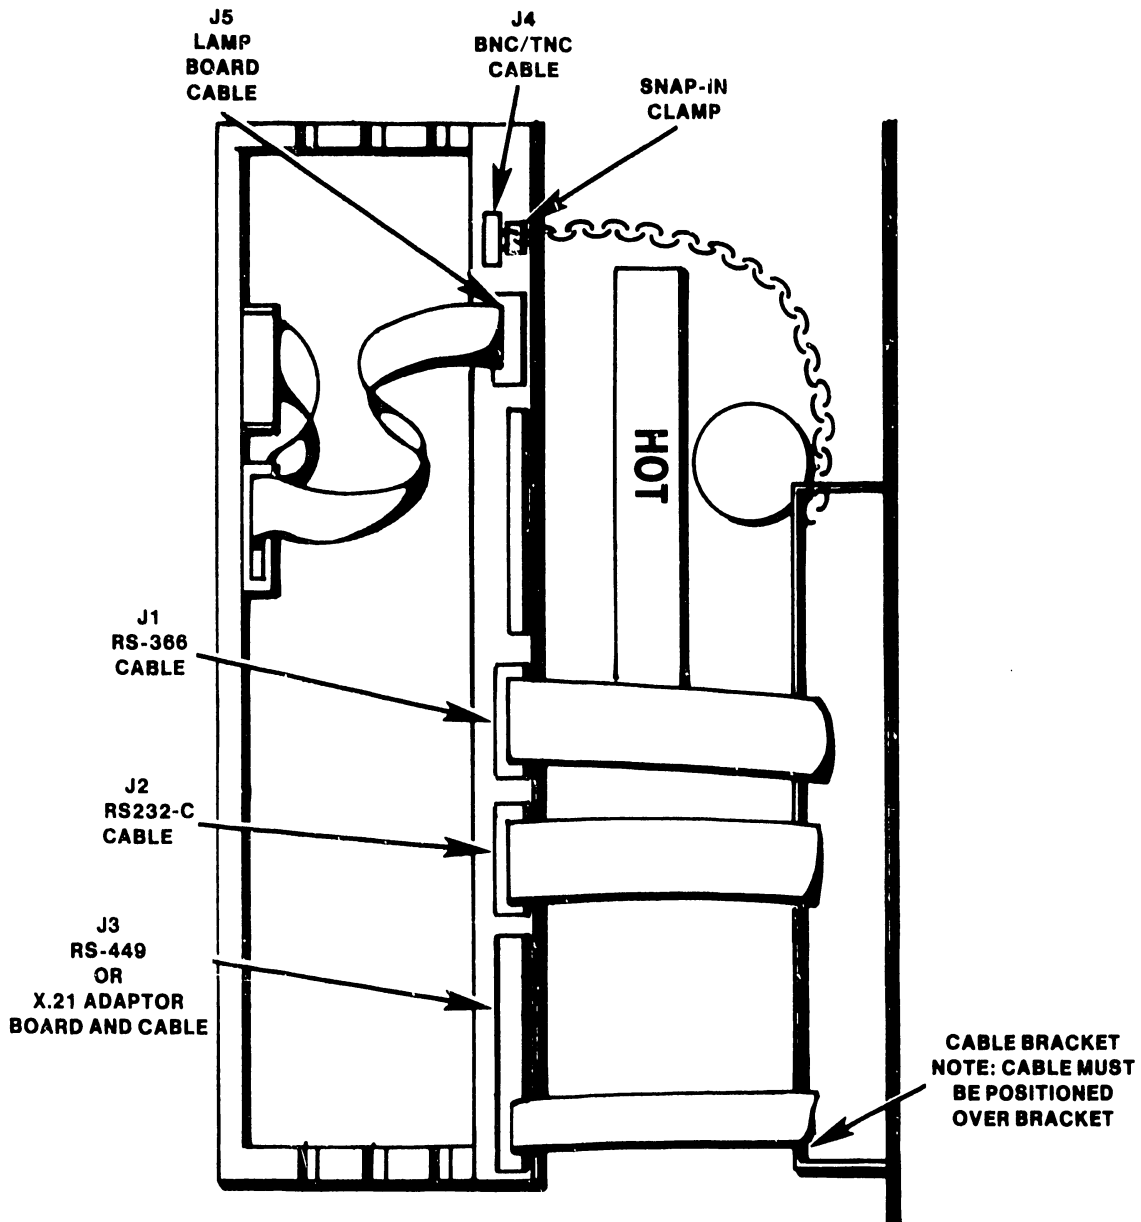

Figure 4-34 Interface Cable Connection
3. Route the BNC/TNC cable (from the TC rear panel) over the cable bracket and plug into J4 on the rail of the TC controller PCB(s) as shown in Figure 4-34.
5. Route the following interface cables over the cable bracket and plug in as shown in Figure 4-34.